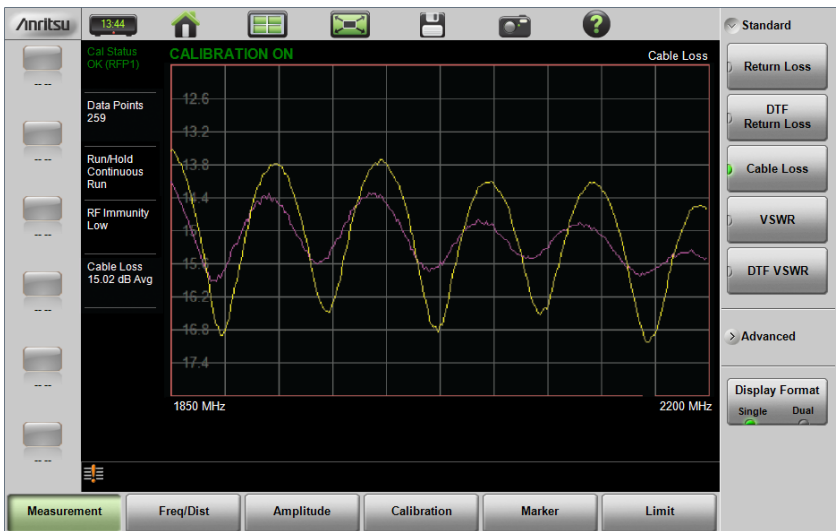

Figure 6-10. Recalled Measurement and Active Trace
6. Figure 6-10 illustrates a recalled measurement and active trace.
The recalled measurement is the purple trace and is overlaid on the current active (yellow) trace. In Figure 6-10 the recalled measurement is used to compare the cable loss of two different RF cables. Recalled measurements are automatically saved to trace memory for use in trace match functions. To see the recalled measurement and the current measurement simultaneously, select **Trace & Memory** in the Trace Display submenu. Refer to “Trace” on page 3-42.